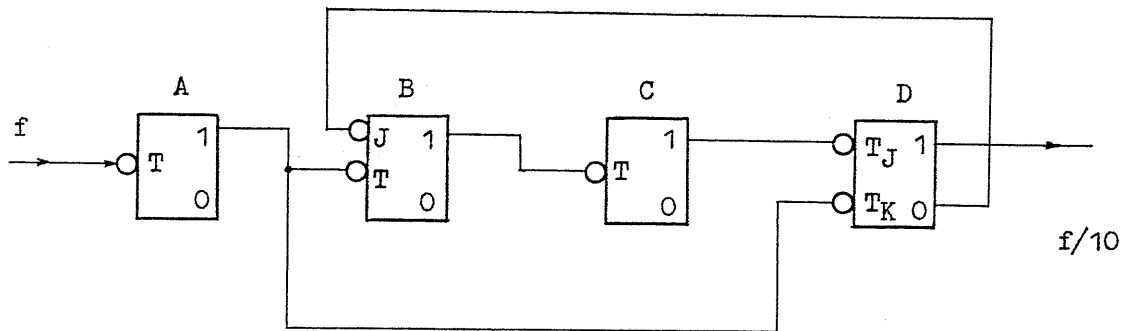

Fig. 4-8
The 8-4-2-1 code counter has four FF. stages connected in cascade, as shown in Fig. 4-8, to compose a decimal counter through feedback from FF (D) to terminal J of FF (B). Table 4.1 shows the output of each FF.